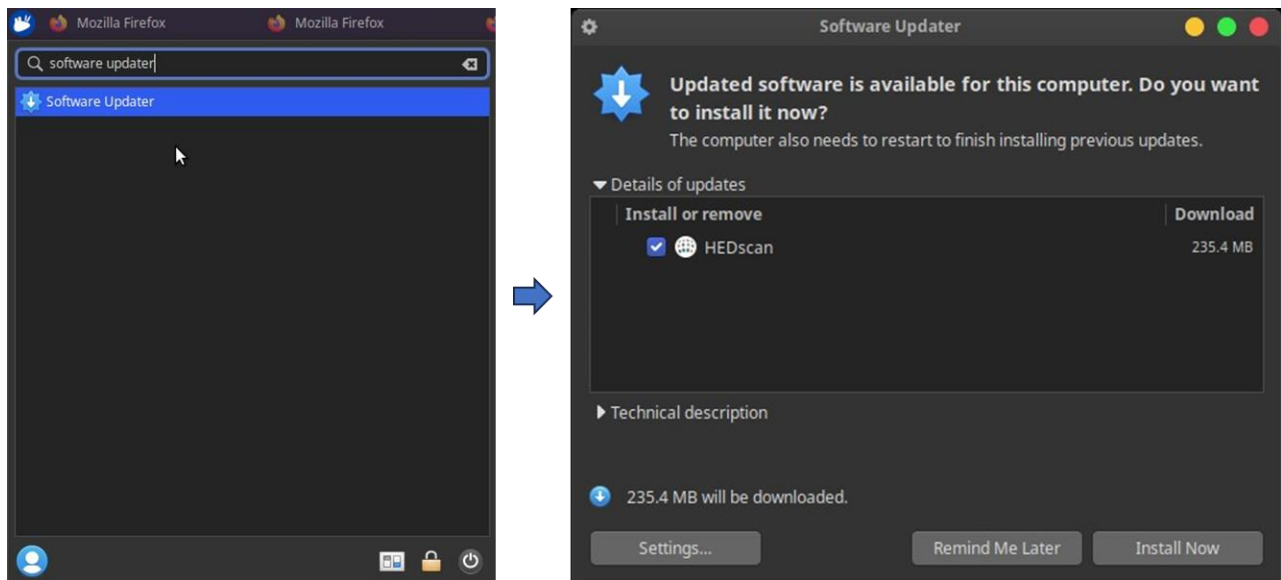

FIGURE 82 – UBUNTU SOFTWARE UPDATER
2. Alternatively via the Ubuntu Software Updater pictured in Figure 82.